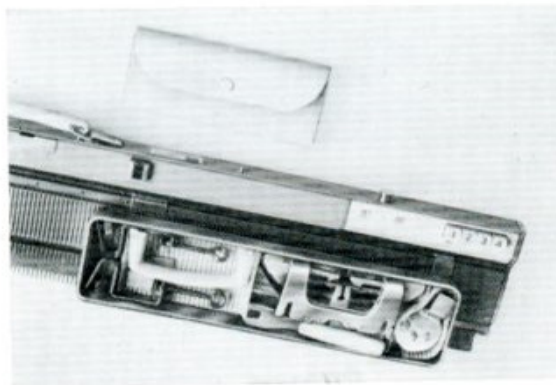

Fig. 107
- b) Remove the row counter and replace in the accessory box as shown in Fig. 107.
- c) Remove the sinker plate and replace in the accessory box as shown in Fig. 107.
- i) Replace the accessory box on the right of the knitter. The right foot must be placed on the ungrooved part and the left foot placed between two rivets on the back of the needle groove. (See Fig. 107) Then the butts of the needles will fit into the holes of the left foot of the accessory box. (See Fig. 108)